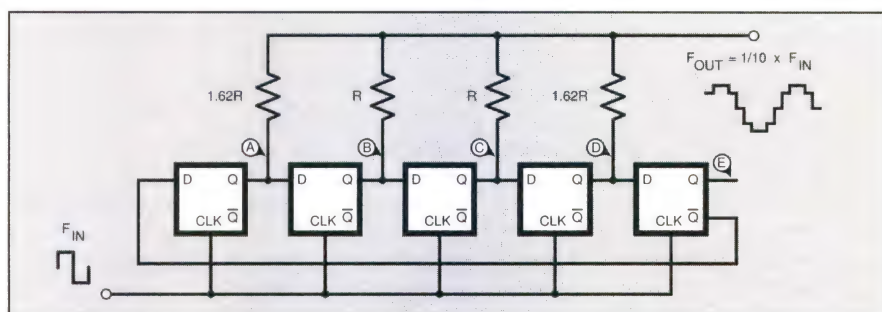

Fig.1. Simplified digital sinewave generator using D-type flip-flops.
A simplified version of the method is shown in Fig.1. Five D-type flip-flops
Assuming all outputs are zero at the outset, clocking the flip-flops will generate a repeating sequence of the output states as shown in Table 2. If four of these outputs are now parallel connected through resistors with suitable value ratios as marked, the output will be the "stepped" approximation of a sinewave as shown in Fig.1. The fifth output is not used so the highest and lowest output voltages remain the same for two clock cycles to simulate the flatter "tops" and "bottoms".
A couple of additions are necessary for IC2 and IC3 to operate correctly in series. To begin with, they are intended to be used as programmable counters. To simplify this their outputs are all Q so that applying any one to the “input”, equivalent to the first Data (D) input of Fig.1, will complete the loop for the appropriate number of clock cycles.